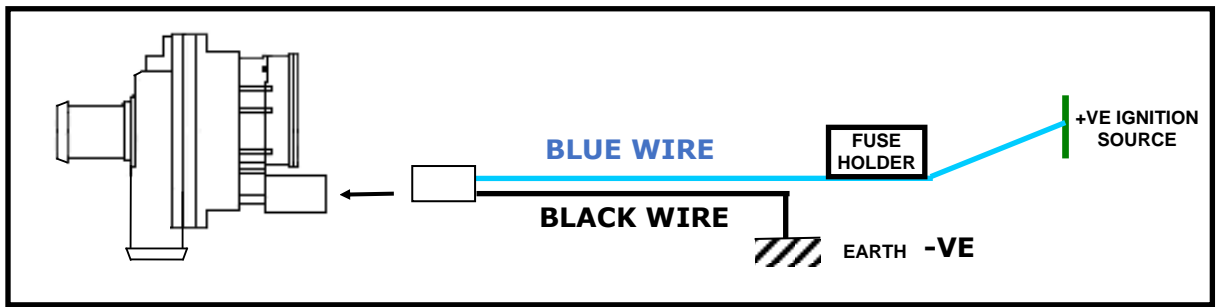

Figure 4a: Wiring diagram for Continuous EBP15® Running.
- For the EBP®15 only, the wiring harness (Part #19516) comes separate to the pump. The EBP®23 has a built in wiring harness. See **Figure 4a** and **4b** for comparison.
The EBP® increases heater performance during normal vehicle operation and enables continued heater usage when the engine is off (but IGNITION is ON). Refer to **Figure 4a** and **4b** for the wiring diagram.
The EBP® improves water circulation through the engine block to prevent the LPG converter from icing up. Other advantages include a more consistent engine temperature and improved engine cooling. It is important for the EBP® to be operating whenever the engine is running. The pump should be wired directly to ignition. Refer **Figure 4a** and **4b**.
3. The EBP® is then to be wired up as described in each appropriate application refer Figure 4a and 4b.